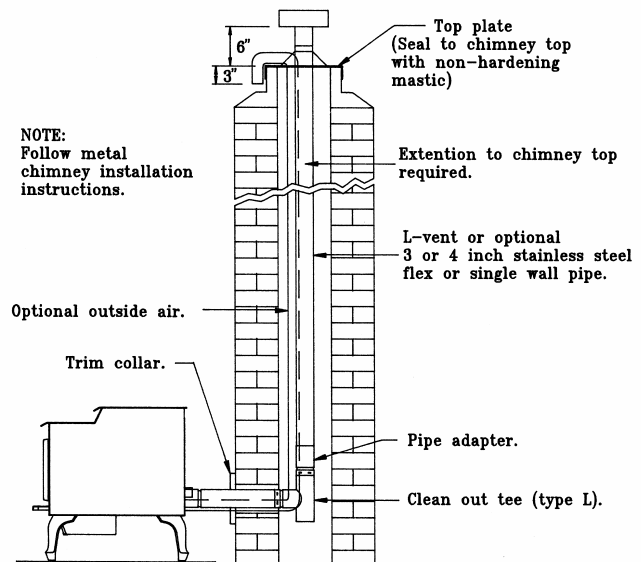

FIGURE 13
4. Install the tee on the bottom of the vertical pipe system and lower it down the chimney until the center branch of the tee is level with the center of the hole in the masonry, as shown in Figure 13.